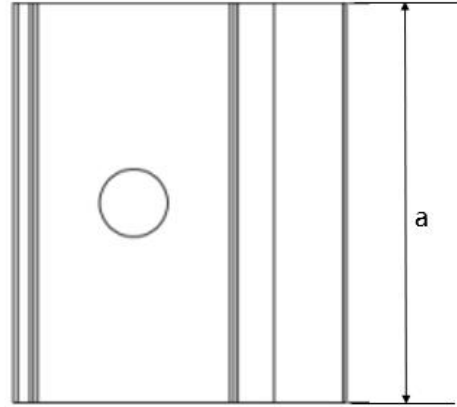
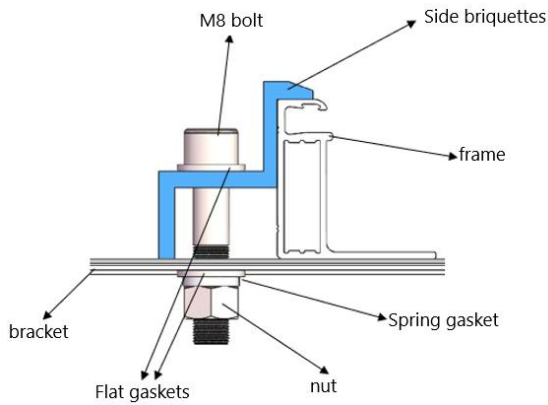

Fig. 7 Top view of fringe clamp
Fig. 11 Installation schematic diagram of fringe clamp
- ③ The top surface of the rail contacted with module frame should be equipped with grooves compatible with an M8 bolt.
- ④ If the grooves are not provided, holes of a suitable diameter may need to be drilled to allow bolts attaching to the rail at the same locations as mentioned above.
- ⑤ Ensure that the mounting sequence of each clamp is in the order of flat washer, spring washer and nut.
- ⑥ Figures 7~10 show the schematic diagram of the clamp, while Figures 11 and 12 show the installation schematic diagram of the clamp. The dimensions of the clamp are as follows: Length(a)  $\geq 50\text{mm}$ , with a thickness of at least 4mm, and an overlap with the frame (d)  $\geq 10\text{mm}$ ; or Length(a)  $\geq 60\text{mm}$ , with a thickness of at least 3mm, and an overlap with the frame (d)  $\geq 8\text{mm}$ . The clamp section can be changed under the premise of ensuring reliable installation, and it must not extend beyond the frame to avoid contact with the glass.
- ⑦ Modules sized 2384\*1303mm and above are only suitable for a clamp dimension of length(a)  $\geq 60\text{mm}$ .
- ⑧ The tightening torque is suggested to be 17~23N•m for Class 8.8 screw and bolts.